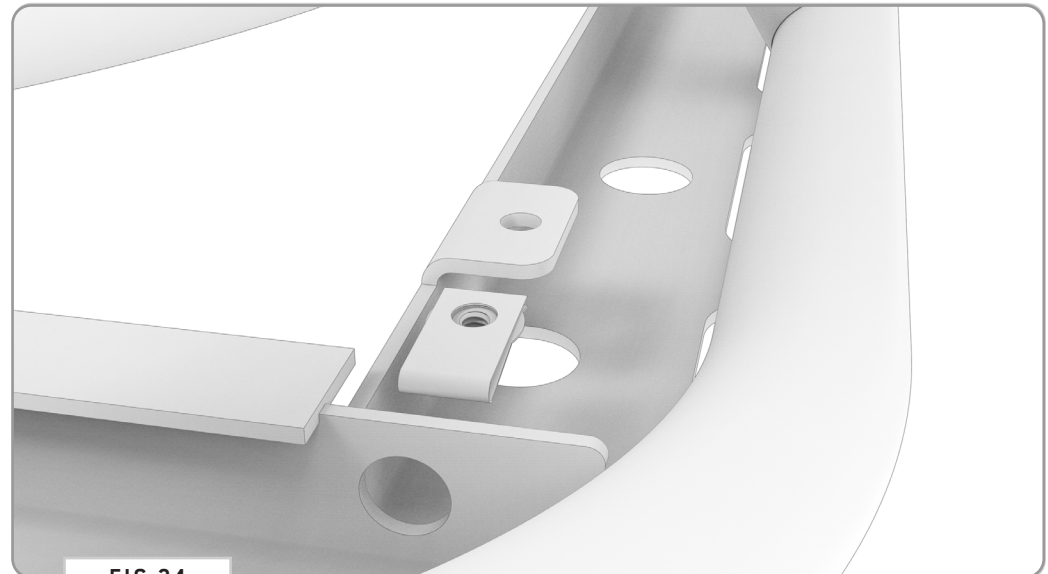

FIG 24
**NOTE** - *The flat side of the **Clip Nut** should be facing upwards (FIG 24)*